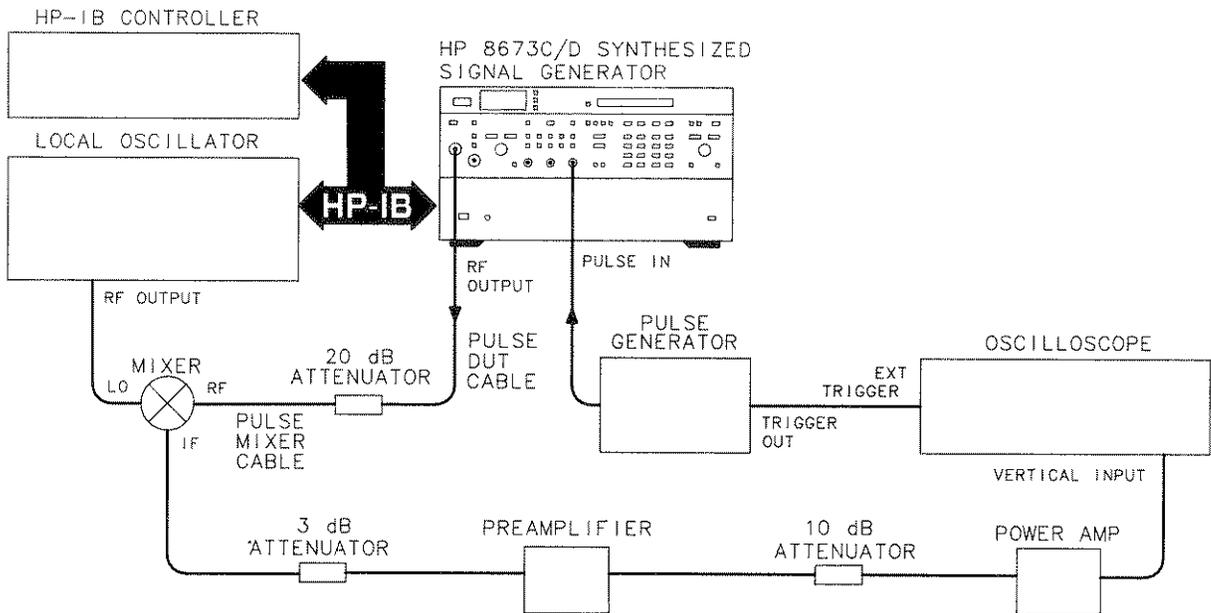

Figure 4-27. Pulse Rise/Fall Time and Overshoot Test Setup
1. Connect the equipment as shown in Figure 4-27. Ensure that the HP 10514A mixer is used for this part of the test procedure.